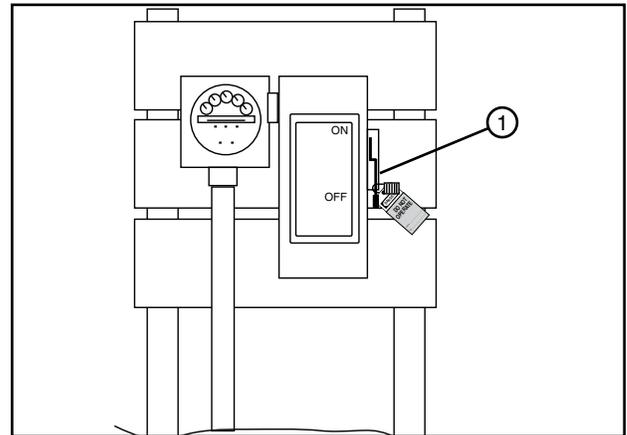

Figure 111-1 1. Public Power Service Disconnect
1. SHUT OFF and LOCK the public power service disconnect to the irrigation machine. See Figure 111-1.
FILL OUT the blue (OSHA safety color code) tag and attach to the disconnect after locking. See Figure 111-1.